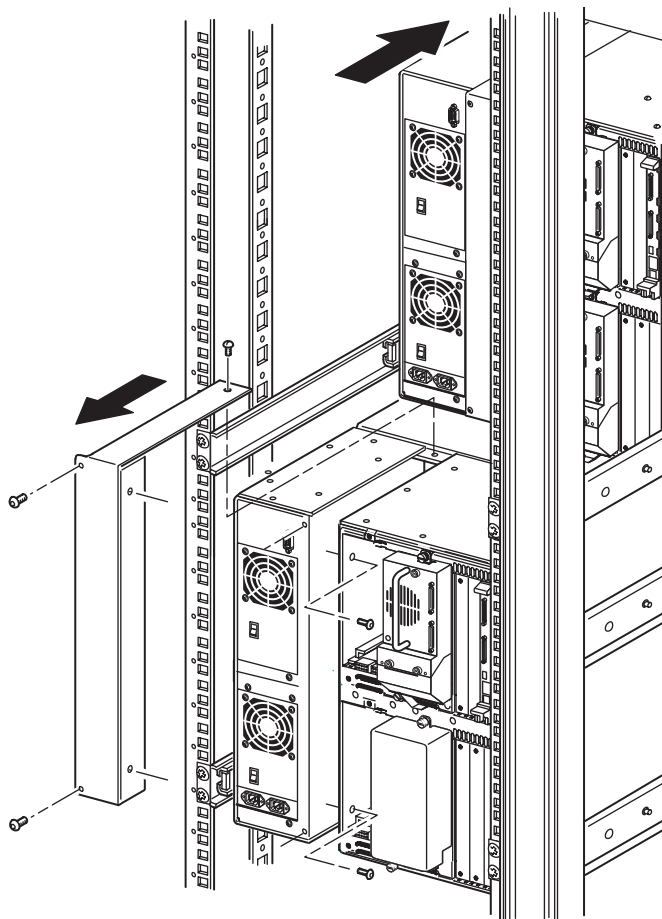

Figure 12 Removing a PTM cover plate (10U models)
NOTE: Each library needs to be pulled out sequentially from the front of the rack enclosure to gain access to the top PTM cover plate screw on a lower library. See Figure 12 on page 23 for screw locations.
- c. Using a #2 Phillips screwdriver, remove the screws that secure the PTM cover plate to the rear of each library chassis (see Figure 12 on page 23).